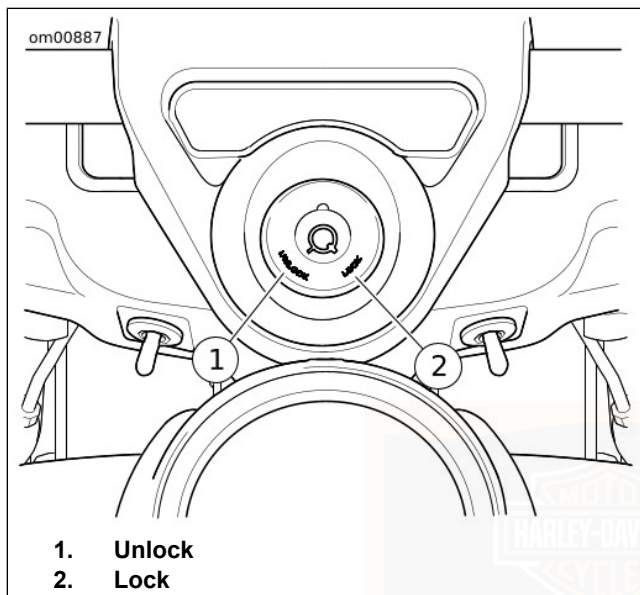

Figure 19. Fork Lock: Models Without Fairing
Without fairing: See Figure 19. The fork lock is at the top of the steering head, behind the headlamp nacelle and inset in the handlebar clamp shroud.
2. See Figure 19. Insert key and turn key counterclockwise to LOCK position. Remove key.